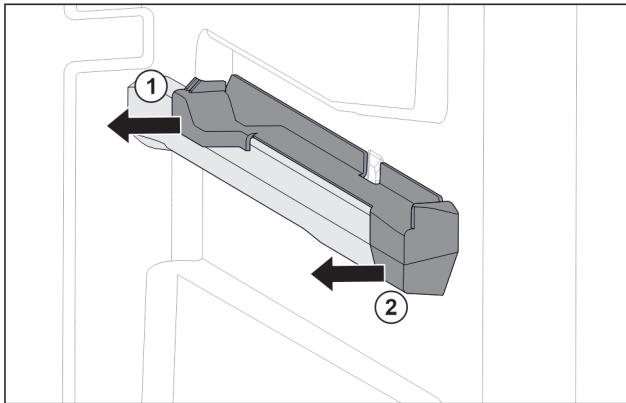

Fig. 120 Attachment on the right molded rib
- ▶ Pull off attachment at the back sideways. Fig. 120 (1)
- ▶ Pull off attachment at the front sideways. Fig. 120 (2)